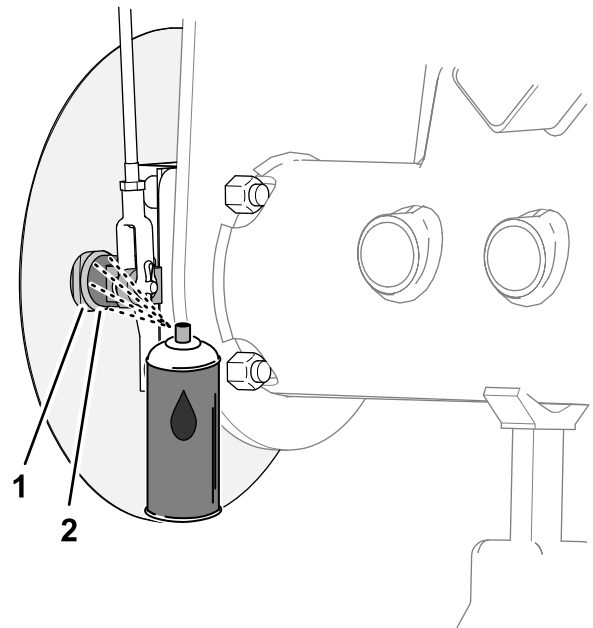
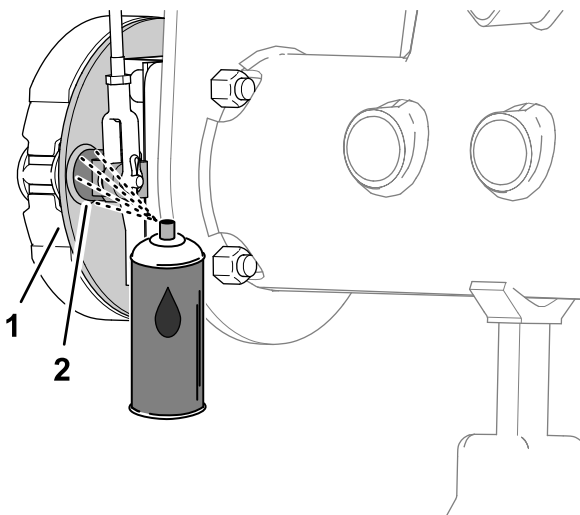

Figure 80
Figure 79
1. At the inboard side of the brake-backing plate (machines without the optional wheel-rim grass shield) or the wheel shield (machines with the optional wheel-rim grass shield), spray penetrating oil between the brake cam shaft and the backing plate (Figure 79 or Figure 80).